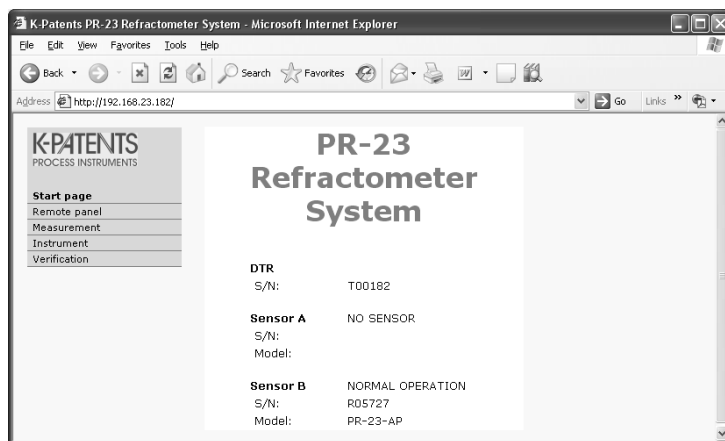

Figure 12.10 Instrument homepage open in a browser
3. The address (URL) of the instrument homepage is the DTR's IP address, for a factory set DTR it is <http://192.168.23.254/> (the figure 12.10 above uses a different address, not the default). Give the address to the browser just like you'd enter any other address (for example <http://www.vaisala.com/>)
If the page looks strange in the first try, refresh/reload the page and it should settle to look approximately like in Figure 12.10; the exact look of the page depends on your browser and screen settings so slight variation can be expected.